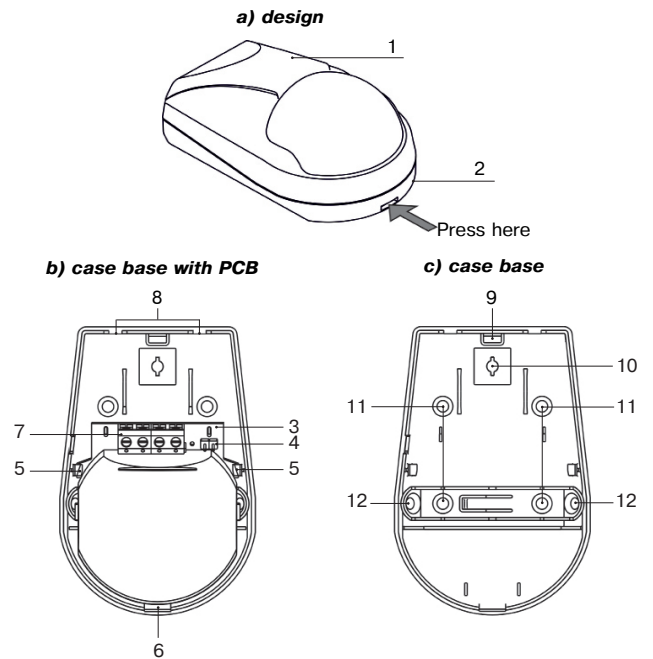

Figure 2
- Push the lock by a screw-driver through the hole on the lower side of the Detector base (See Figure 2) and put off the cover.